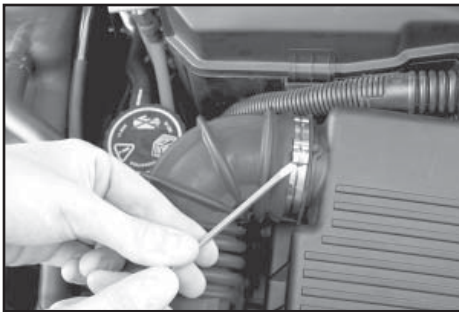
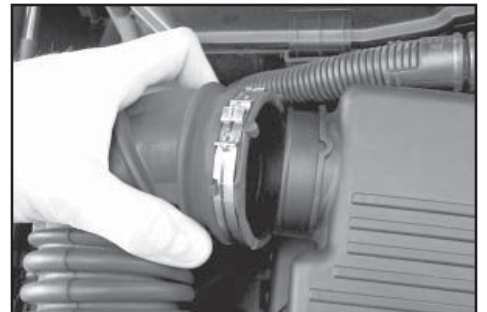

Fig. 1a
Fig. 2
1. Remove the hose clamp on the air box with a flat blade screwdriver (see Fig 1a and 1b). Disconnect the tube from the airbox lid (Fig. 2).